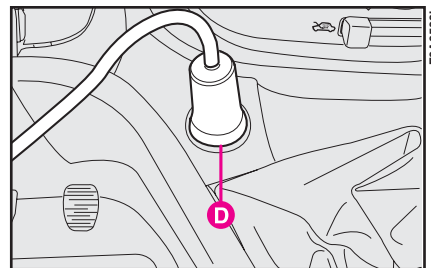
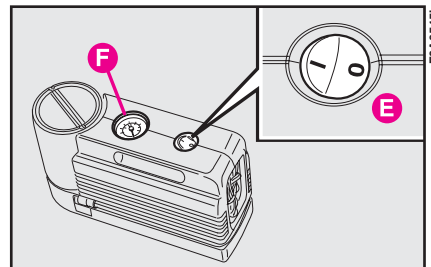

fig. 16e
fig. 16f
– make sure the compressor switch **E-fig. 16f** is set to **0** (off), start the engine and fit plug **D-fig. 16e** into the nearest current outlet and then turn on the compressor by setting switch **E-fig. 16f** to **I** (on). Inflate the tyre to the pressure specified in paragraph “Inflation pressure” in section “Technical Specifications”. Check tyre pressure on gauge **F** with compressor off to obtain precise reading;